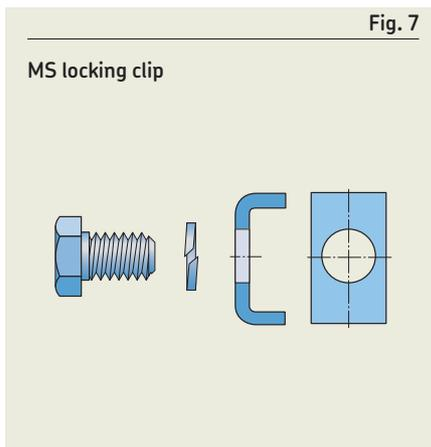
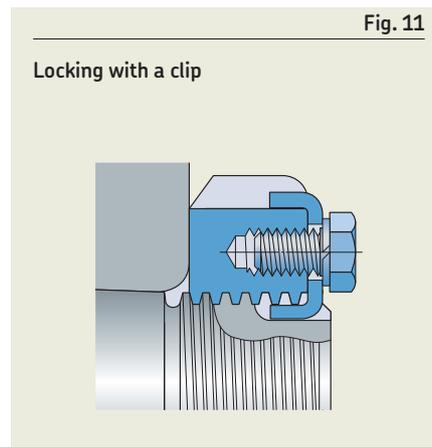

Fig. 7
Fig. 11
- are located on the shaft by MS locking clips (fig. 7)
- Locking clips (fig. 7) engage a keyway in a shaft or adapter sleeve and one of the slots in the outside diameter of the lock nut. Locking clips are attached to the nut by a bolt (fig. 11).